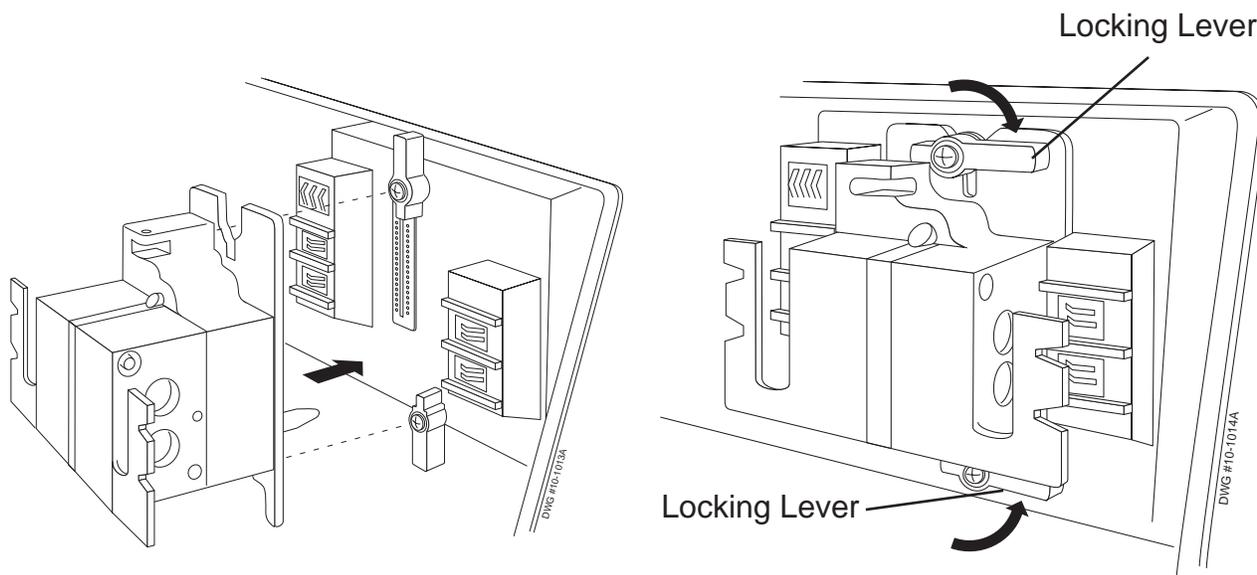

Figure 4.17 Replacing and Locking the Sensor Module
8. Guide the new sensor module into place so that it fully engages (Figure 4.17).